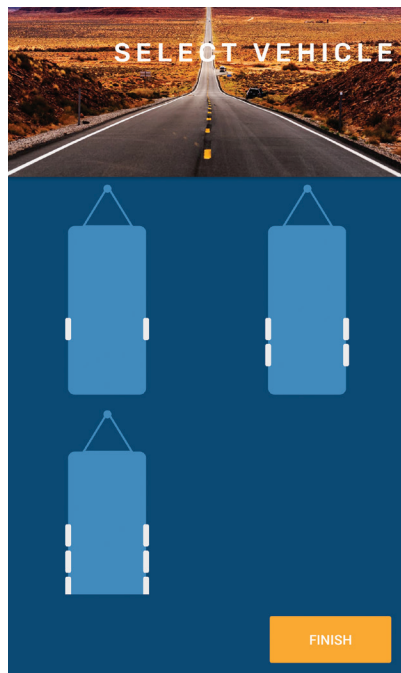

Fig.9
10. Select a vehicle layout (**Fig.9**) and press “Finish.”